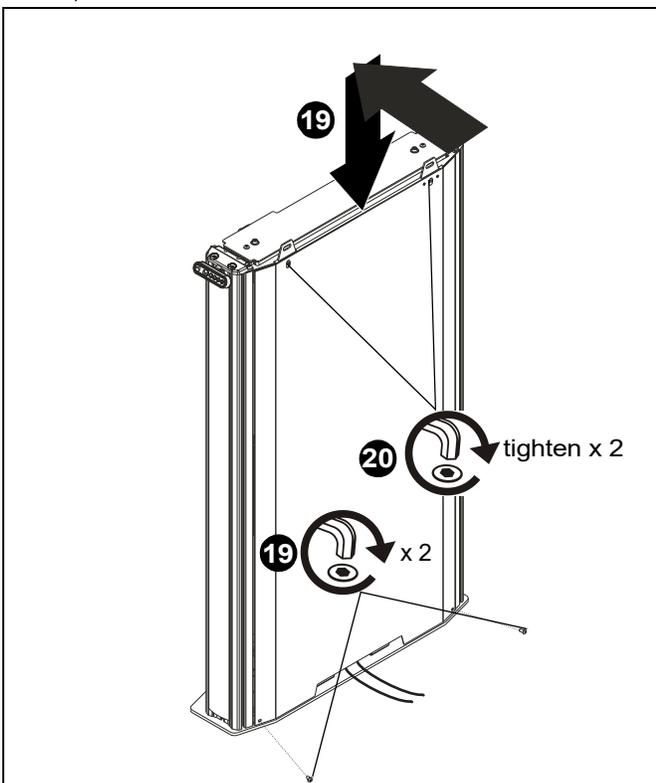

Figure 12
19. Reinstall rear cover and secure by installing screws removed in Step 6. (See Figure 12)
20. Tighten screws that were loosened in Step 7. (See Figure 12)